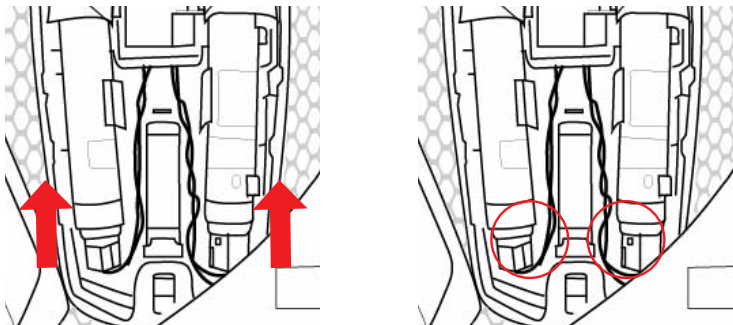
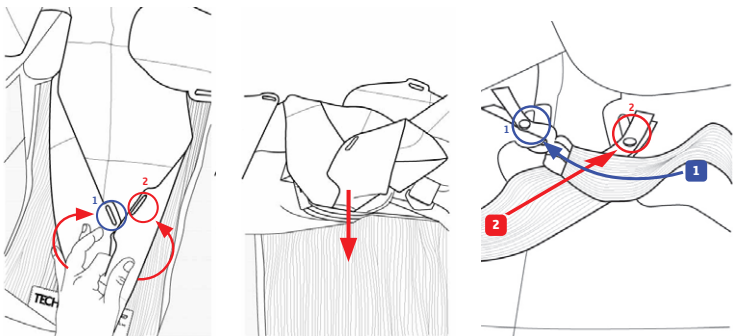
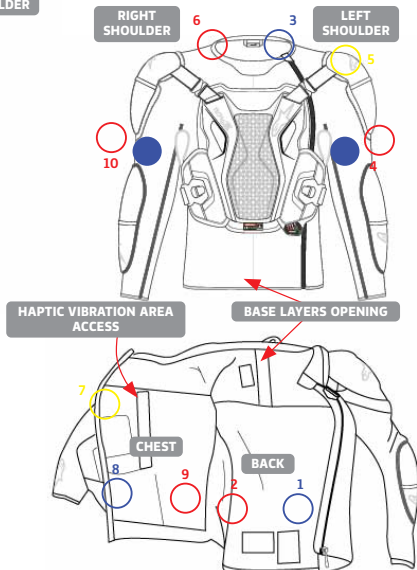

Figure 25: How to detach the Removable Inflators Housing (18) from the System by pulling it up
Figure 24
Figure 28: Clip locations on the Airbag (left) and on the System's Base Layer (5) (right)
1. First place the System with the back facing down on a flat surface, preferably a workbench or table. Detach the Airbag from the Base Layer (5) by opening all the connection clips arranged as shown in Figure 28. The User can access these connections via the Base Layer (5) openings indicated in Figure 28. There are a total of 10 Airbag clips which are distributed and numbered as indicated in Figure 28: 3 clips on the Left Shoulder area (clips 3-4-5), 2 clips on the Right Shoulder area (6-10), 3 clips for the Chest area (7-8-9) and 2 clips for the Back Area (1-2). It is suggested to detach these clips in sequential order, beginning with clips located on the lower back (1-2), then moving to the clips on the shoulders (3-4-5, and 6), then to the clips on the chest (7-8-9) and finally to the last clip number-10 on shoulder (see Figure 28).
2. Once all the Airbag clips have been detached, first turn the System with the back protector facing upwards, open the lower zip of the Hydration Bag Container (9) and the Electronic Case (16) positioned in the back area of the System by pulling down on the red pull tab with your right hand and lifting up the Electronic Case with your left hand simultaneously.
3. Once the Electronic Case (16) has been lifted up, the User can detach all the Electronics components (13-15-19) along with the Gas Inflators (17) by simply pushing up the Removable Inflators Housing (18) (see Figure 25). The User can do this by putting their two thumbs at the bottom of the little black box which contains the Electronic Control Unit that it located at the top of the Housing, and pushing firmly upwards until it clicks, and then the User can easily lift it up out of the Removable Inflators Housing (18).
The User may start to gently pull the entire Airbag out of the Tech-Air[®] System, until it is completely removed. Next, the User must remove the LED Display (4) from its location. Now, turn the System on its back with the back protector facing downwards. Put your hand into the System from the opening under the inner lining on the left chest of the System. Bring your hand up to the loop on the right shoulder and remove the Electronic Connector cable plug by pulling it out through the loop. Next open the Velcro pocket on the left chest so you can access the Haptic Vibration Area (3). The User must now remove the Activation Zip Sensor from the pocket. Next, the User must pull the cable down through the Haptic Vibration Area (3) access hole on the left side until the entire cable has been removed (see reference in Figure 28). Next the User must open the Velcro found on the left wing of the chest protector and remove the LED Display (4). At this point, all of the Electronic components (13-15-19) should have now been completely removed from the System.
1. First, place the System with the Back Protector facing up. The User must reinsert the Airbag through the opening in the Back Protector, taking care to position the Airbag correctly (it is critical that the User avoid twisting or creating folds of the Airbag). Insert the Airbag inside the System with the utmost attention to ensure that each clip is meticulously matched by color and number to the exact corresponding Connection Clip inside the System. The User MUST anchor the Airbag on ALL 10 of the Connection Clips as shown in Figure 28. It is suggested to do this operation with the Gas Inflaters (17) positioned in the corresponding Removable Inflatators Housing (18). In order to attach the Airbag to the corresponding Connection clips, the User should use the front Base Layer (5) openings by matching the numbered and coloured labels on both the Airbag and on the System's Base Layer (5), (see Figure 28). Please notice that Connection Clips 4 and 10 have double coloured blue and red labels, (make sure when attaching the Connection Clips that the red side is matched to the red side and the blue side is matched to the blue side), in order to help the User to attach the Airbag in the correct orientation.
WARNING! The lower Back Clips (1 and 2) have to be attached in a criss-cross fashion, as reported in the figure 24 below, making an x on the back of the Airbag, this ensures that the Airbag is well anchored. The lower Back Clips (1 and 2) will therefore be attached to the opposite clips with respect to the back view, and as a result the Users should see a slightly folding of the bottom borders of the Airbag. Referring to the frontal view, clip 1 MUST be attached to the left clip and clip 2 MUST be attached to the right clip, as reported in Figure 28.